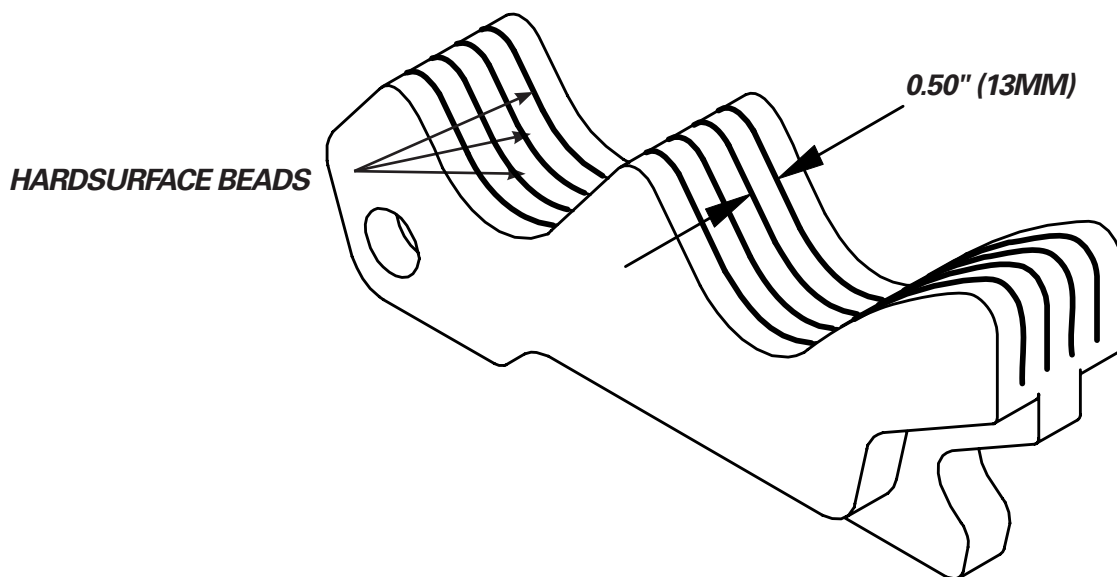

FIGURE 5-8
5. To hardsurface the tooth, start by applying parallel passes of AWS E7018 build up running the length of the tooth (Figure 5-8). These single passes should be approximately 1/2" (13 mm) apart and will serve as an underlayment for the hardsurface rod.